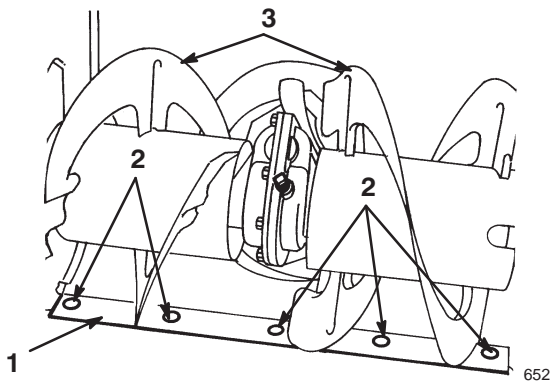

Figure 23
- Skid (2)
- Flange nuts (4)
- Auger side plate (2)
- Support the *auger blades* so that they are 1/8 inch (3 millimeters) off the ground (Fig. 23).
- To adjust the scraper, loosen the 5 mounting screws (Fig. 23), level the scraper, and tighten the mounting screws.